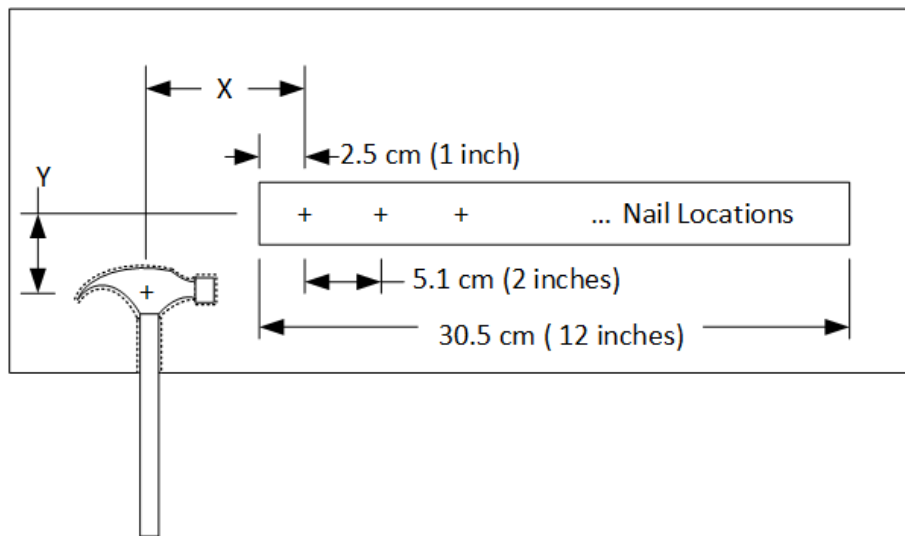

Fig. 3. Hammer a nail setup
3. Mark nail locations on foam as shown in Figure 3